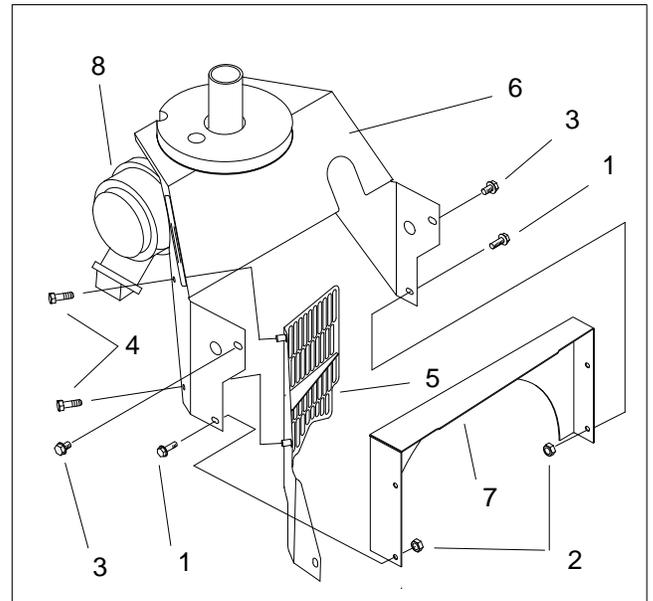
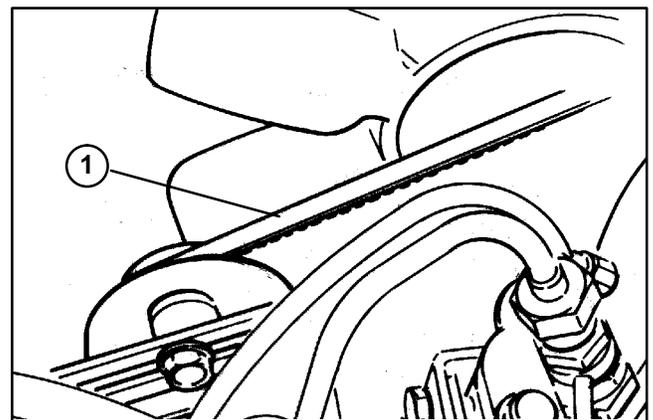

Figure 7
Figure 8
- Gain access to the alternator belt (Fig 7).
- Loosen top hose clamp securing the upper portion of the hose connected to the air cleaner (8).
- Remove cap screws (1) and lock flange nuts (2). Remove hex head screws (3).
- On European models, remove hex head screws (4) from the guard (5) and air cleaner housing (6).
- Pull air cleaner housing from the radiator top shroud (7) and hose. Plug air cleaner hose and hose inlet to the air cleaner.
- Adjust alternator belt to the proper tension. Tension alternator belt so it deflects 0.20 inch with a 2 to 3 pound load applied midway between the crankshaft and alternator pulleys (Fig. 8).
- Reinstall air cleaner housing (Fig 7).
- Place air cleaner housing (6) on the radiator top shroud (7). Reconnect upper end of the air cleaner hose to the air cleaner (8). Align holes to receive fasteners.
- On European models, reinstall hex head screws (4) into guard (5) through the air cleaner housing (6).
- Secure cap screws (1) and lock flange nuts (2) to air cleaner housing and radiator top shroud (7).
- Secure hex head screws (3) into the air cleaner housing and radiator assembly.